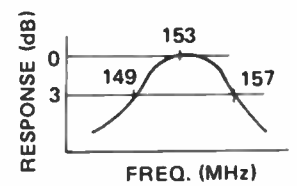

FIGURE 7. VHF Hi
- Step 4: Adjust T1, T2 and T3 in RF section for maximum output and best curve symmetry as shown in Figure 7.